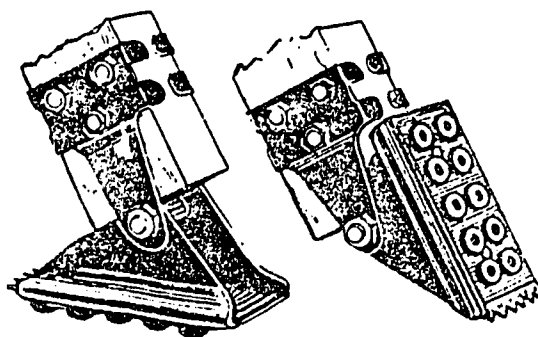
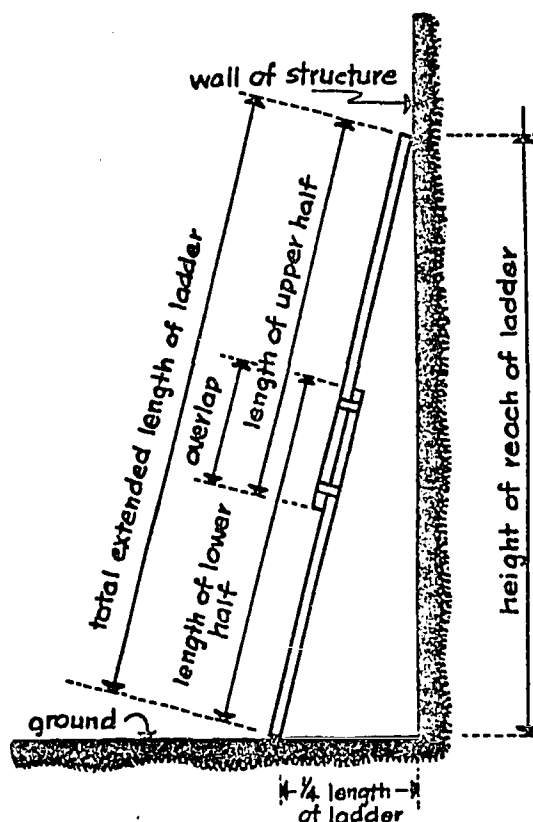

Figure 12. Ladder Safety Shoes.
Figure 13. Ladder Stability.
(1) Store wood ladders in a warm, dry area protected from the weather and ground.
(2) Protect wood ladders with clear coatings only, so that cracks, splinters or other defects will be readily visible.
(3) Inspect all ladders frequently for loose or bent parts, cracks, breaks or splinters.
(4) All straight and extension ladders must have safety shoes. These should be of insulating material for metal ladders. (See Figure 12.)
(5) Do not use portable ladders greater in length than can be readily carried and placed by two men. Never splice ladders to form a longer ladder.
(6) Pre-test all ladders and scaffolding before use by placing horizontally with blocks under ends and "bouncing" in the center or walking along ladder or scaffold.
(7) Extension ladders should have a minimum overlap of 15% for each section. (See Figure 13.)
(8) Do not use stepladders over 10 feet high. Never use one as a straight ladder. Never stand on the top platform.
(9) Place ladders so that the horizontal distance from the top support to foot is at least $\frac{1}{4}$ of the working length. Be sure that the ladder is securely in place. Rope off all doorways in front of the ladder and place warning signs. (See Figure 13.)
(10) Use hand lines to raise or lower tools and materials. Do not overreach when working on ladders. Move the ladder instead.
(11) Never use metal ladders in areas where contact with electric power lines is possible.